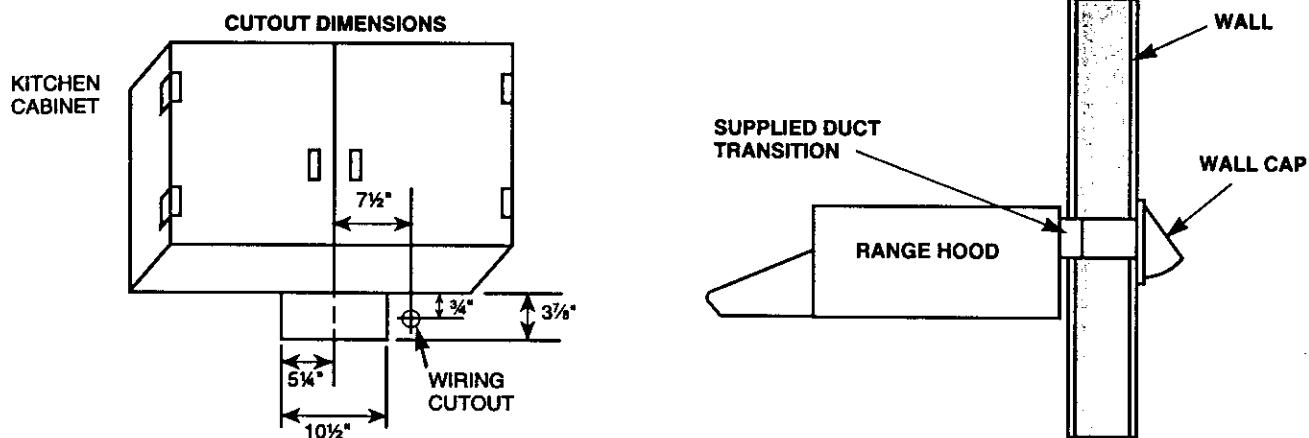

FIGURE 1
1. Use the dimensional drawings (Refer to FIGURES 1 - 3) to lay out the range hood's mounting holes, wiring access and ductwork by marking the cabinet bottom and drywall where applicable.
Refer to FIGURE 1 if the range hood is to be installed with a horizontal discharge.